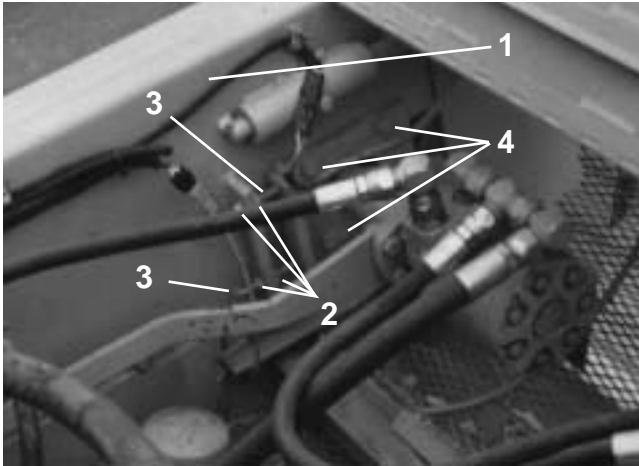

Figure 19. Conveyor Head Pulley Adjustment
2. Should it be impossible to obtain centered belt operation by adjusting the tail pulley (Fig. 18) it will then be necessary to adjust the head pulley as outlined below. (Fig. 19)